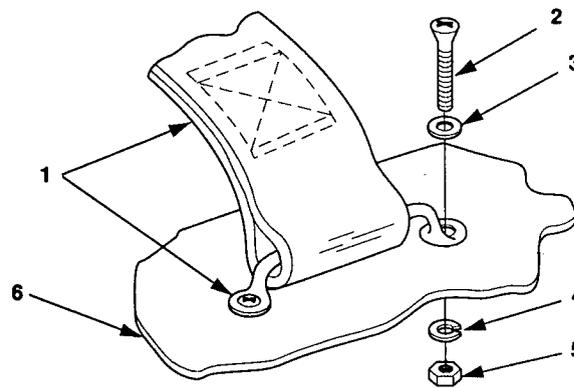

Figure 4-19. Strap Assembly Maintenance.
1. Remove two nuts (5, figure 4-19), lock washers (4), flat washers (3), and screws (2) that secure strap assembly (1) to trailer chassis.
2. Remove strap assembly (1).